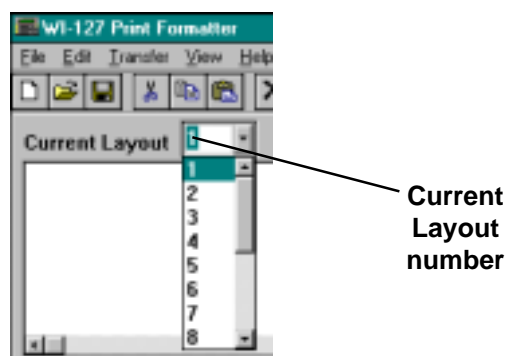

Figure 2
2. Select the Current Layout number you want to work on. See Figure 2. Use the scroll bar on the right side of the drop down list to see the rest of the list. We'll select #1 in this example.